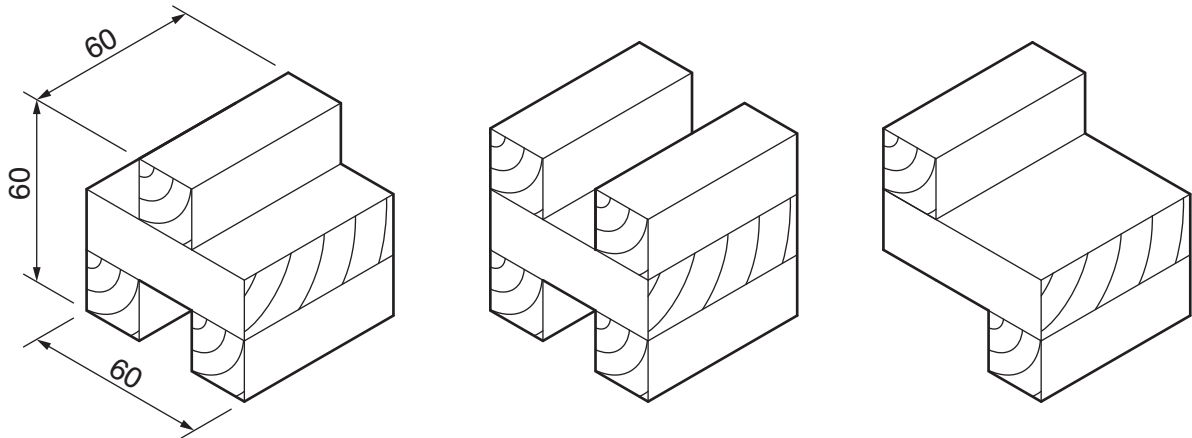

Fig. 4
- 4 Fig. 4 shows three building blocks that are part of a set used by children. The building blocks are constructed from beech strips.
- (c) The building blocks shown in Fig. 4 could have been designed using drawing instruments or CAD.